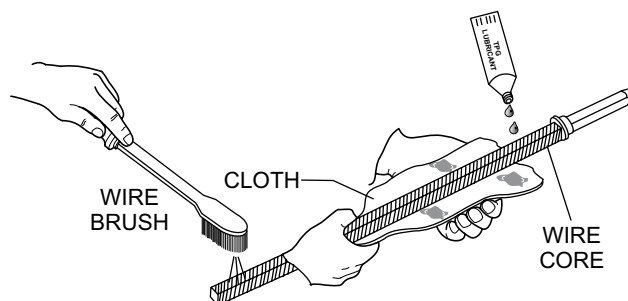

Figure 8. Cleaning Wire Core
7. Thoroughly clean wire core (Figure 8) if it is being reused. A wire brush may be required to remove hardened residue.
8. Apply a light amount of DuBois "TPG" lubricant (Figure 8) or a good grade bearing grease to the entire length of the wire core.